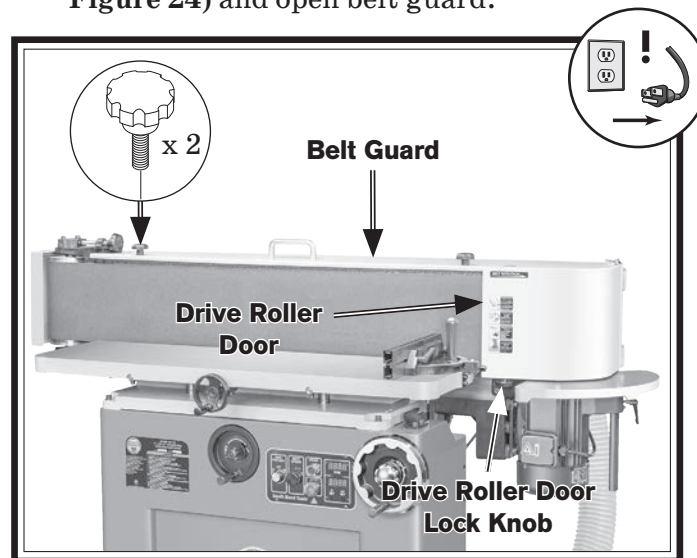

Figure 24. Location of belt guard and drive roller door components.
2. Loosen drive roller door lock knob (see Figure 24) and open drive roller door.
3. Remove (2) belt guard lock knobs (see Figure 24) and open belt guard.